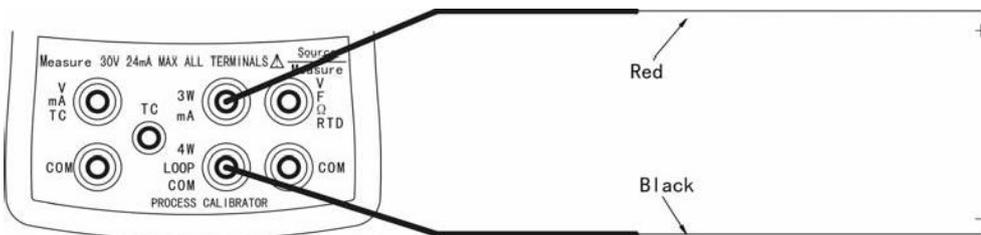

Figure6-2 Current Sourcing Connections
- (1) Press  until the lower display shows "SOURCE".
- (2) Press  to select current until the display shows "mA".
- (3) Connect the test leads as shown in Figure6-2.
- (4) Enter the desired output value by pressing numeric keypads